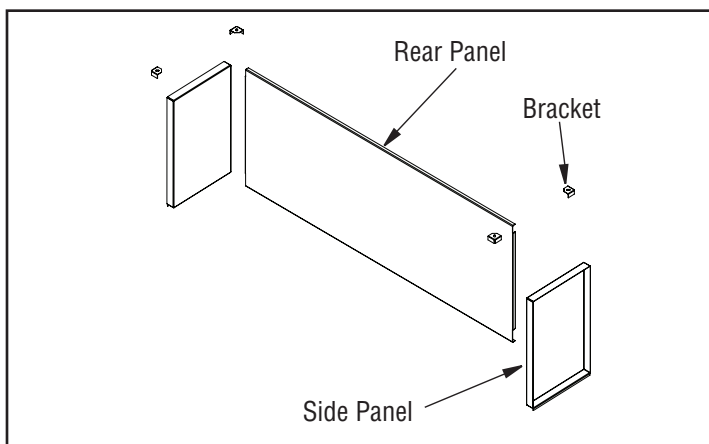

Figure 40 - Removing Rear Interior Wall for See-Thru Applications
2. Unscrew 4 corner brackets from the firebox top (See Figure 40).